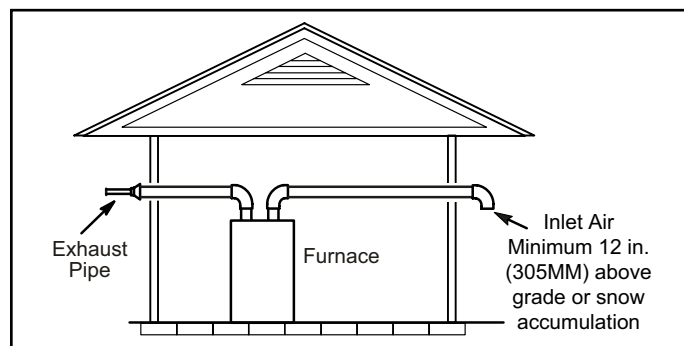
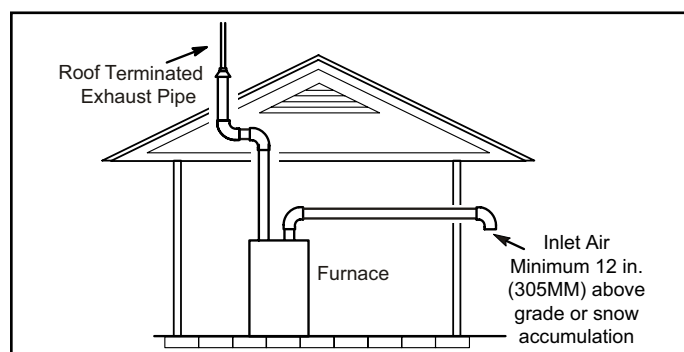

Figure 25. Exiting Exhaust and Intake Vent (no common pressure zone)
Figure 26. Exiting Exhaust and Intake Vent (no common pressure zone)
1. Intake and exhaust terminations are not required to be in the same pressure zone. You may exit the intake on one side of the structure and the exhaust on another side (Figure 25). You may exit the exhaust out the roof and the intake out the side of the structure (Figure 26).